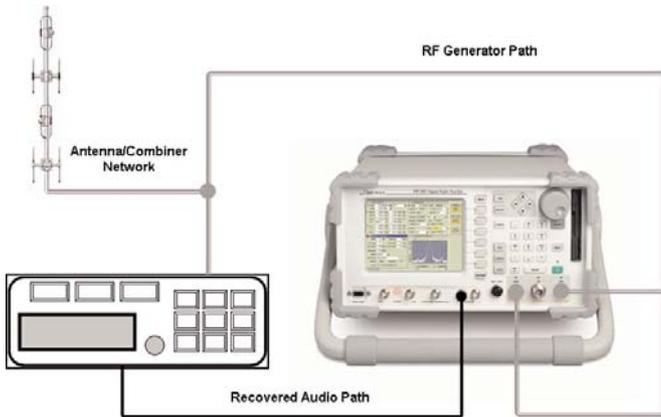

Figure 4.0 Aeroflex 3901 System Configuration
Figure 4.0 shows how the Aeroflex 3901 would be set up to perform a Sensitivity search.
- The Radio RF receiver is connected to the appropriate port of the 3901. This will be either the Generator or the T/R port depending upon how the generator is configured. See figure 4.0 again for reference on connecting the 3901 to the radio.
- Ensure that the 3901 is recovering audio through either Audio input 1 or 2. To enable this correctly, select audio input port from the Site Monitoring expanded tile and select either audio in 1 or audio in 2. Audio input 1 is used in figure 4.0.